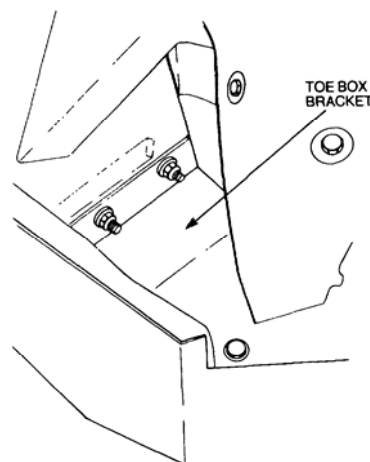

Figure 22 Removal of the Toe-box Bracket
- xx. Remove the bolts securing the firewall toe-box brackets to the chassis (Figure 22)
- u.** Install the bolts that secure the toe-box brackets to the chassis (Figure 22).